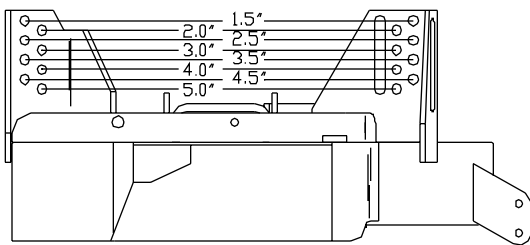

FIGURE 3a
2. The cutting height ranges from $1 \frac{1}{2}$ " to 5.0" in $\frac{1}{2}$ " increments. (See Fig. 3a)